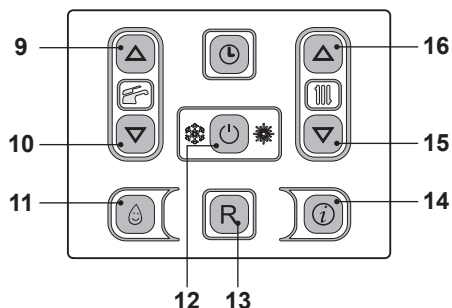

Fig. 7.5
- Press the 12 key for 2 seconds until both  and  symbols appear on the display Fig. 7.5.
- Switch off the boiler by pressing the 12 (Fig. 7.5) key for 2 seconds until the — — — — symbol appears on the LCD display (Fig. 7.4).